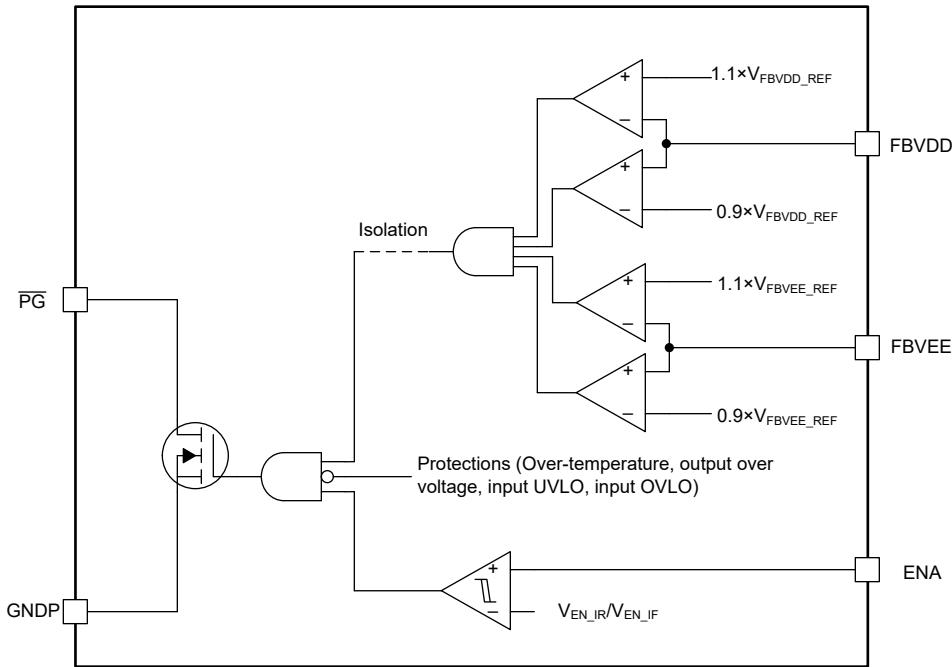

図 7-7. PG Pin Logic
The active-low power-good (PG) pin is an open-drain output that indicates (short) when the module has no fault and the output voltages are within  $\pm 10\%$  of the output voltage regulation setpoints. Connect a pull-up resistor ( $> 1\text{ k}\Omega$ ) from PG pin to either a 5-V or 3.3-V logic rail. Maintain the PG pin voltage below 5.5 V without exceeding its recommended operating voltage. The logic of PG pin can be illustrated using 図 7-7.